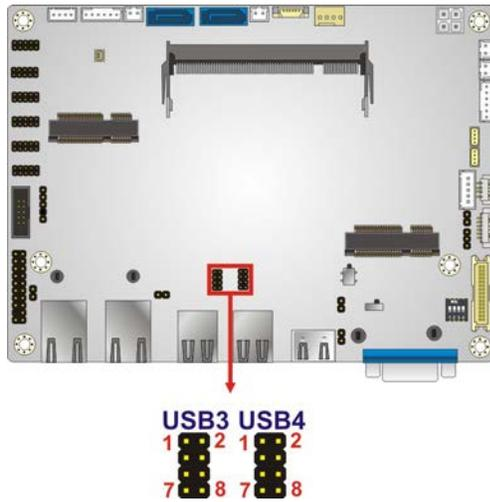

Figure 3-31: USB Connector Locations
- CN Location:** See **Figure 3-31**